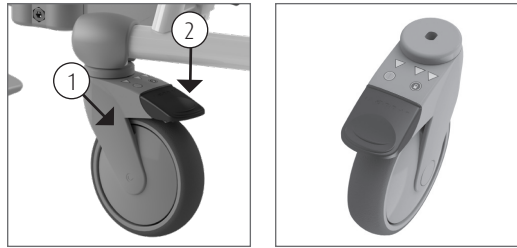

Figure 2. Directional / braked wheel.
To block the wheel direction, push down the black lip. N.B. Make sure the black lip moves 1 position downwards (1) (See figure 2) to lock the direction. When the black lip moves 2 positions downwards, the wheel will be blocked. In order to lock the direction again, the same lip on the wheel must be moved upwards by tapping on the upper side of the black lip (2) (See figure 2).